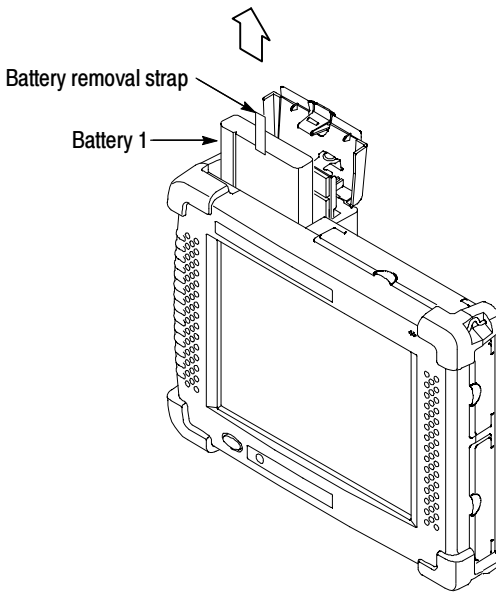

Figure 1-7: Removing a battery
7. Pull up on the battery removal strap to remove the battery. See Figure 1-7. If the strap is not accessible, place your hand over the battery compartment and tilt the NetTek Analyzer Platform upside down. The battery should come out of the compartment. Be careful to not to drop the battery.